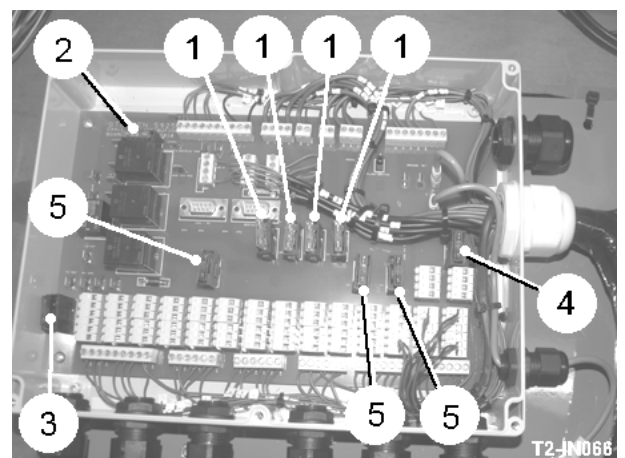

Fig 52
- 4x 25Amp fuses to protect the module power feeds (item 1, fig 52).
- 1x 25Amp fuse to protect the auxiliary feed (item 2, fig 52).
- 1x 2Amp fuse to protect the 10.0Volts joystick feed (item 3, fig 52).
- 1x 2Amp fuse to protect the 8.5Volts joystick feed (item 4, fig 52).
- 3x 2Amp fuses to protect the sensor power feeds (item 5, fig 52).